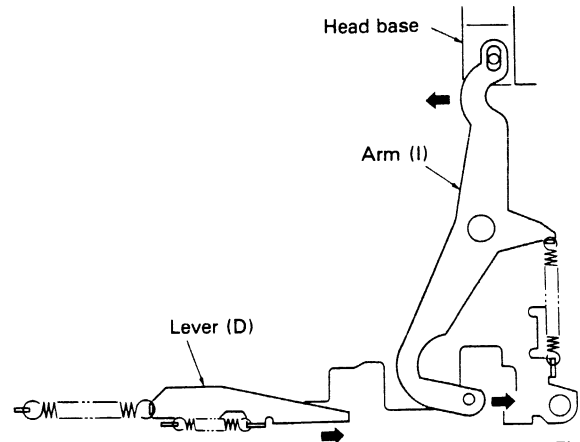
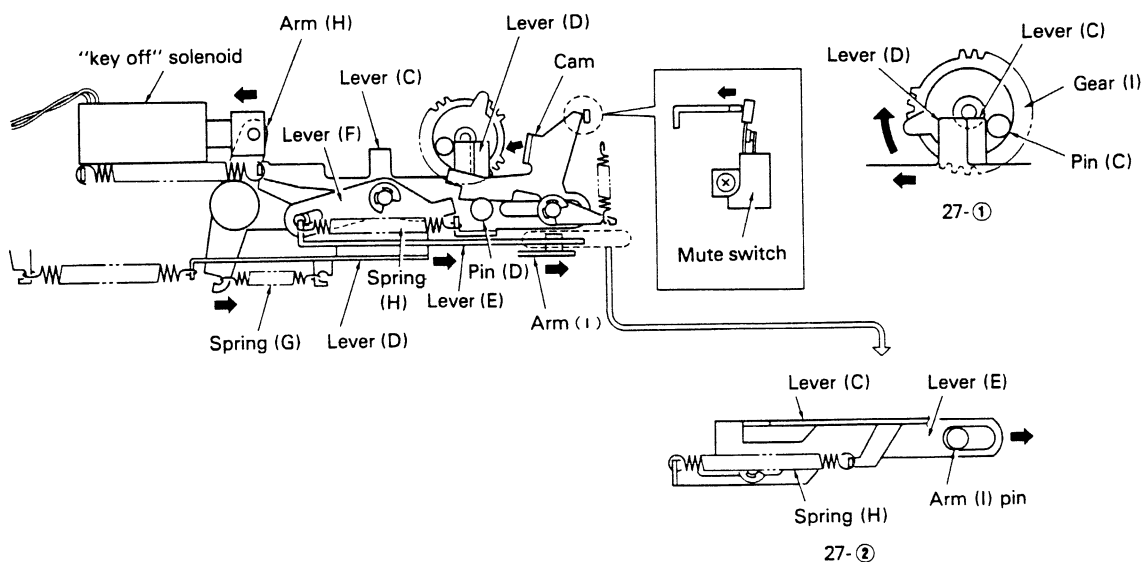

Fig. 28
Fig. 27
- As gear (I) rotates, pin (C) pushes lever (C) and lever (D) in the direction indicated by arrow in Figure 27-①. As it is pushed by lever (C) and pulled by spring (H), lever (E) moves in the direction indicated by the arrow in Figure 27-② and pushes against the arm (I) pin. At the same time, as lever (D) moves in the same way as lever (C), arm (H) is pulled by spring (G) in the direction indicated by the arrow. Because the "key off" solenoid is already in the "on" position, as arm (H) pushes against the solenoid lever, arm (H) is locked in place. This movement also causes lever (F) to move upward and lock in place. As a consequence, as long as the "key off" solenoid remains in the "on" position, arm (R) will not unlock, even if direction change, FF or REW operations are performed.
- The mute switch moves from the "on" position to the "off" position as the pin on lever (C) moves along the cam. Pin (D) on lever (C) then falls into the notch on the cam and is locked in place.
- As lever (E) moves, the arm (I) moves in the direction indicated by the arrow in Figure 28 and pushes the head base forward.